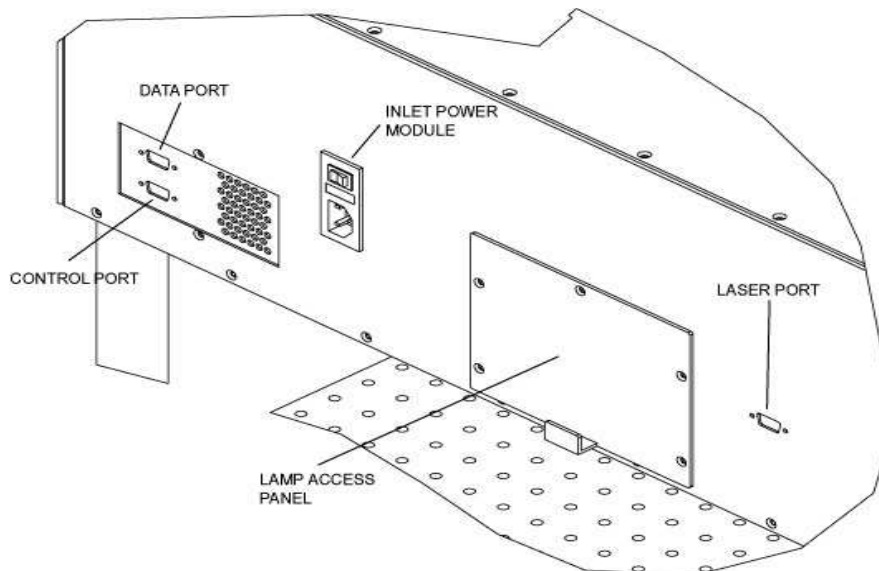

Figure 5: Rear View of SF-100 Maskless Photolithography System
2. Turn off the SF-100 using the switch on the inlet power module (see figure 5) and disconnect the power cable from the electrical outlet.
4. Remove the (5) five UNC # 6-32 flathead screws holding the lamp access panel in place on the back of the unit. See figure 5 below.